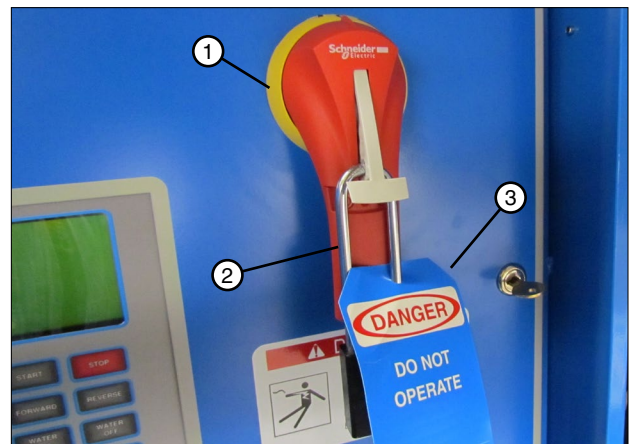

Figure 89-2 1. Main Disconnect
- (b) SHUT OFF and LOCK the control panel main power disconnect. FILL OUT the blue (OSHA safety color code) tag and attach to the disconnect after locking. See Figure 89-2.